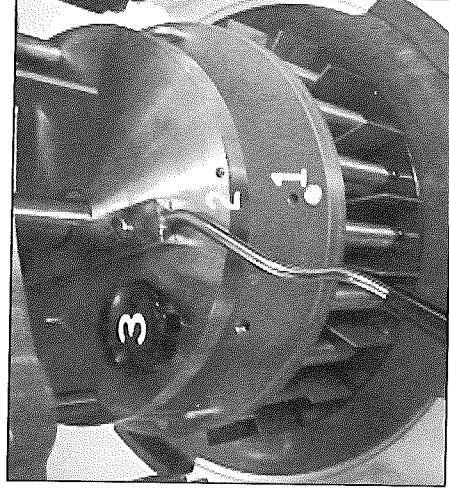

Figure 15
3. Rotate the head assembly, Fig. 15, No. 1, 1/4 turn clockwise. Alignment pin at front of trip plate, Fig. 15, No. 2, will engage in hole in head assembly, No. 1.
5. Tighten both hand knobs (Fig 15, No. 3).